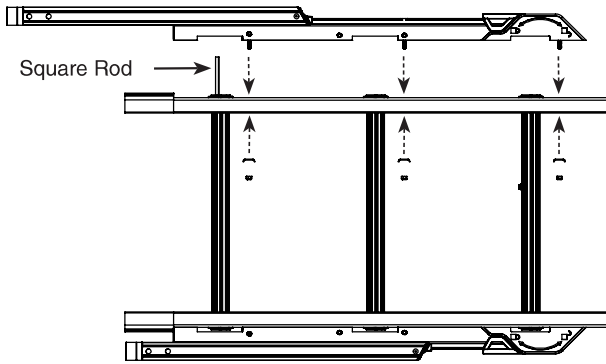

Fig. 6
17. To install the square rod, fully retract the attached side of the leveler and fully extend the other side of the leveler. (Fig. 6)
- Place the other side of the leveler onto the square rod (Fig. 6) and insert all 6 bolts through the drilled holes of the ladder rail.
- Place each backing plate with the flanges facing out (Fig. 6) over each set of bolts.